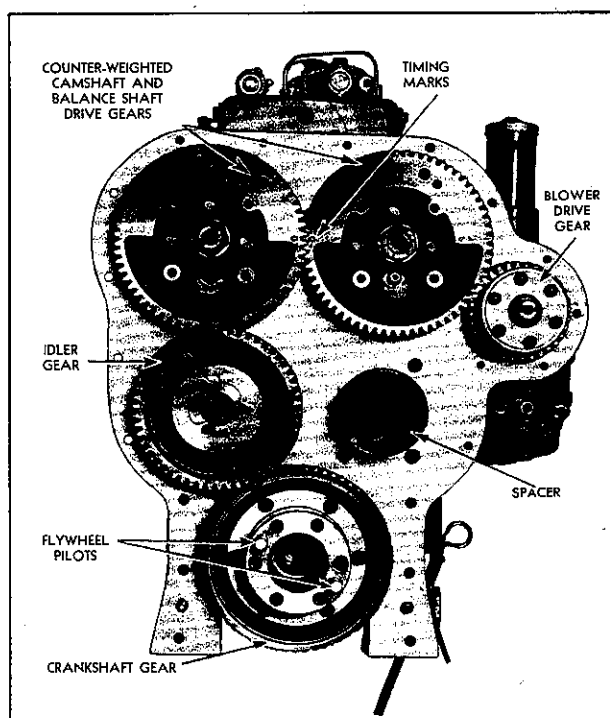

Fig. 1—Gear Train and Timing Marks—Right-Hand Rotation Shown.
1. Install one piston hole cap and lock ring into either end of pin bore. (See Fig. 1.)
**Description**—Located at the rear end of the engine is a completely enclosed train of five helical gears, as shown in Fig. 1. A gear bolted to the crankshaft flange drives the camshaft and balancer shaft gears, as well as the blower and accessory drive gear, through an idler gear mounted between the crankshaft and either the camshaft or balancer shaft gear.